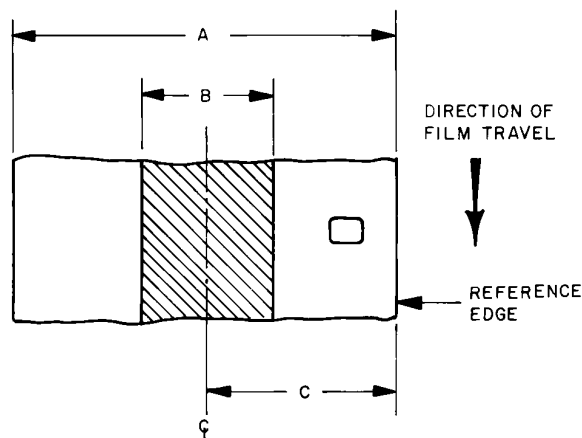

Figure 1 – Center-position audio record
**2.1** The lateral location and width of the center-position magnetic audio record shall be as specified in figure 1 and table 1.
**2.3** With the direction of travel as shown in figure 1, the magnetic coating is on the surface toward the observer.